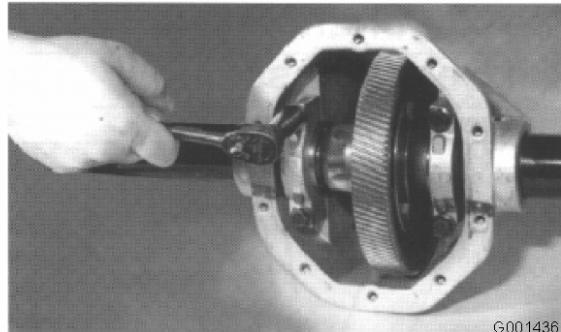

Figure 8
- 4. Remove the four bearing cap screws and remove the bearing caps (Figure 8).